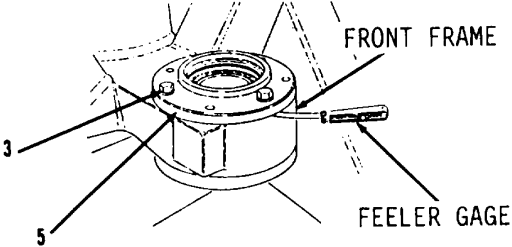

Figure 16-32.
- 14. Install three of seven lockwashers (4) and three of seven bolts (3), with one but no more than two holes between three bolts (3). Tighten three of seven bolts (3) to 65 ft-lb torque.
- 15. Insert feeler gage between cap (5) and front frame near each of three of seven bolts (3) and measure gap between cap (5, Figure 16-32) and front frame.